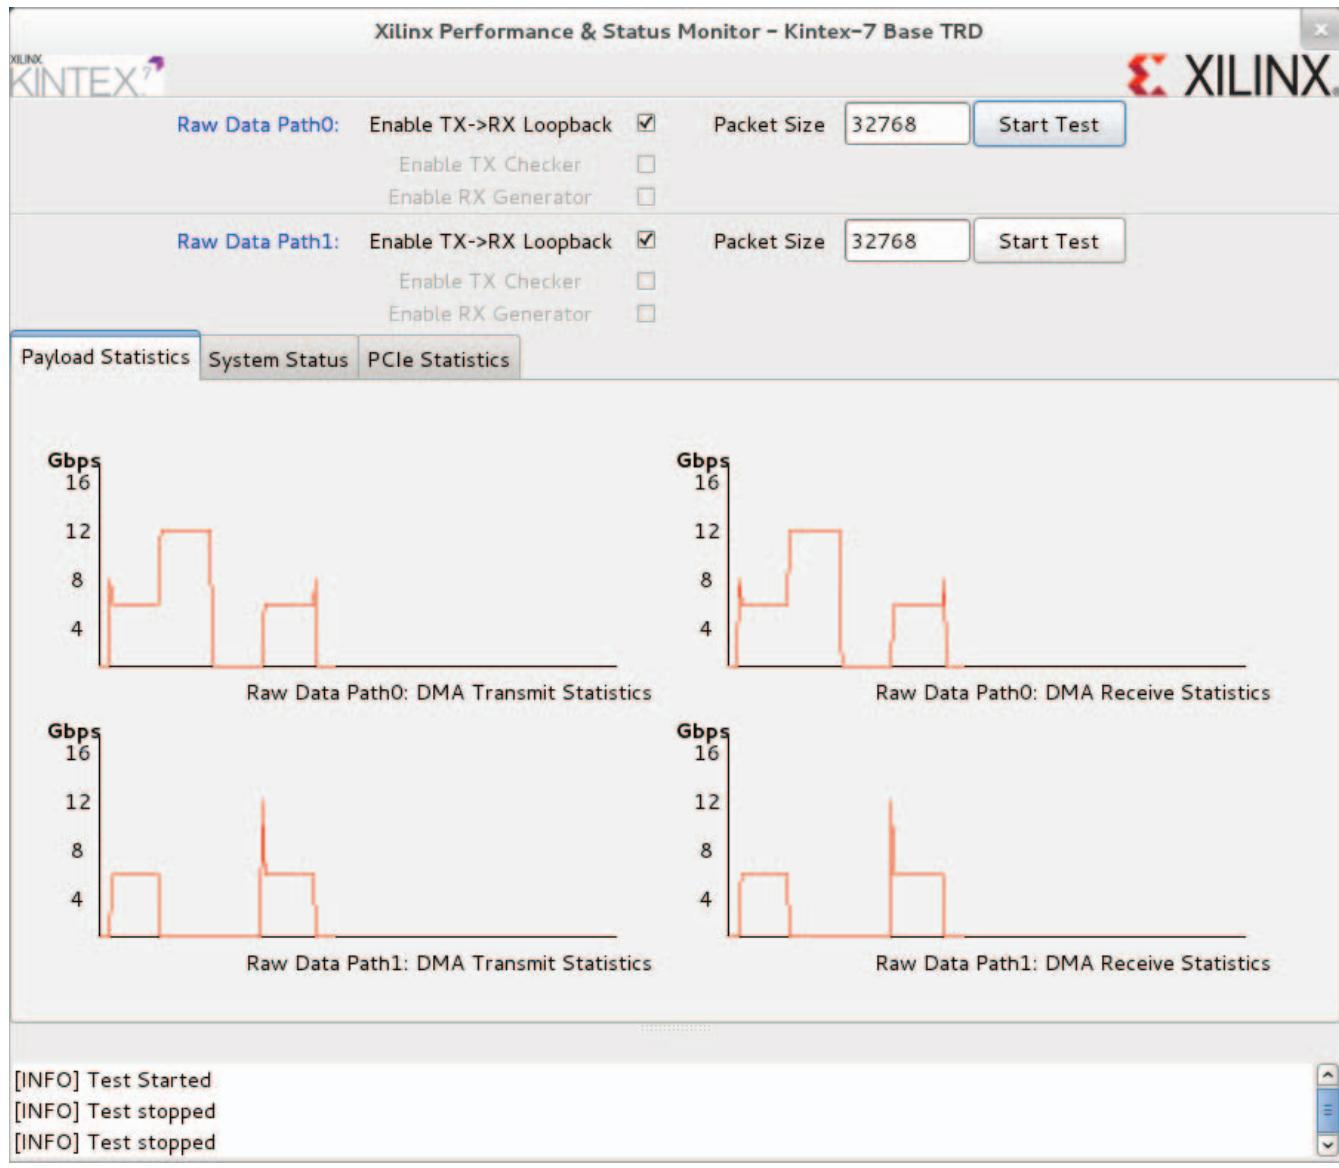

Figure 24: Payload Statistics
3. Execute the test, and view payload statistics in the Performance and Status Monitor (see Figure 24).